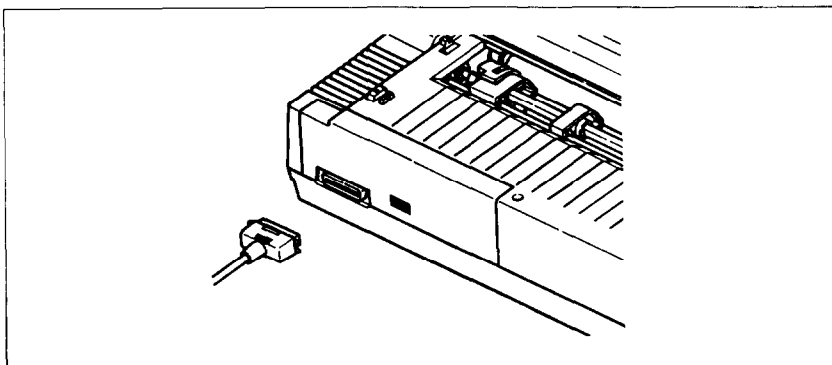

Figure 2-14. Connect the cable like this.
2. Connect the printer end of the interface cable to the connector socket at the right rear of the printer as shown in Figure 2-14.